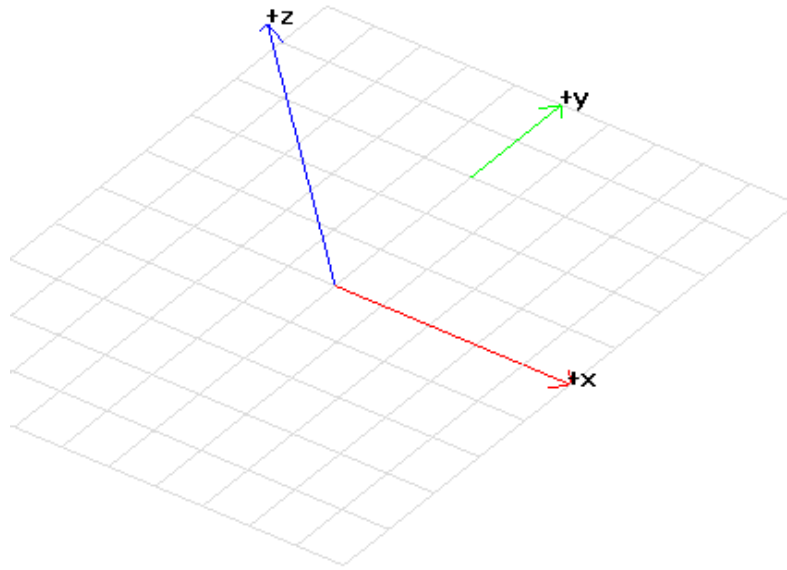

Figure 3.1 3D space
- (1) Turn on the F3 parameter to enable dynamic focus;
- (2) Dynamic focus 3DXYZ file after loading Calibration (Calibration method reference Calibration specification);
- (3) Open the 3D interface , add the STL file (3D vector model), and import the vector diagram into the 3D coordinate space in Figure 3.1;